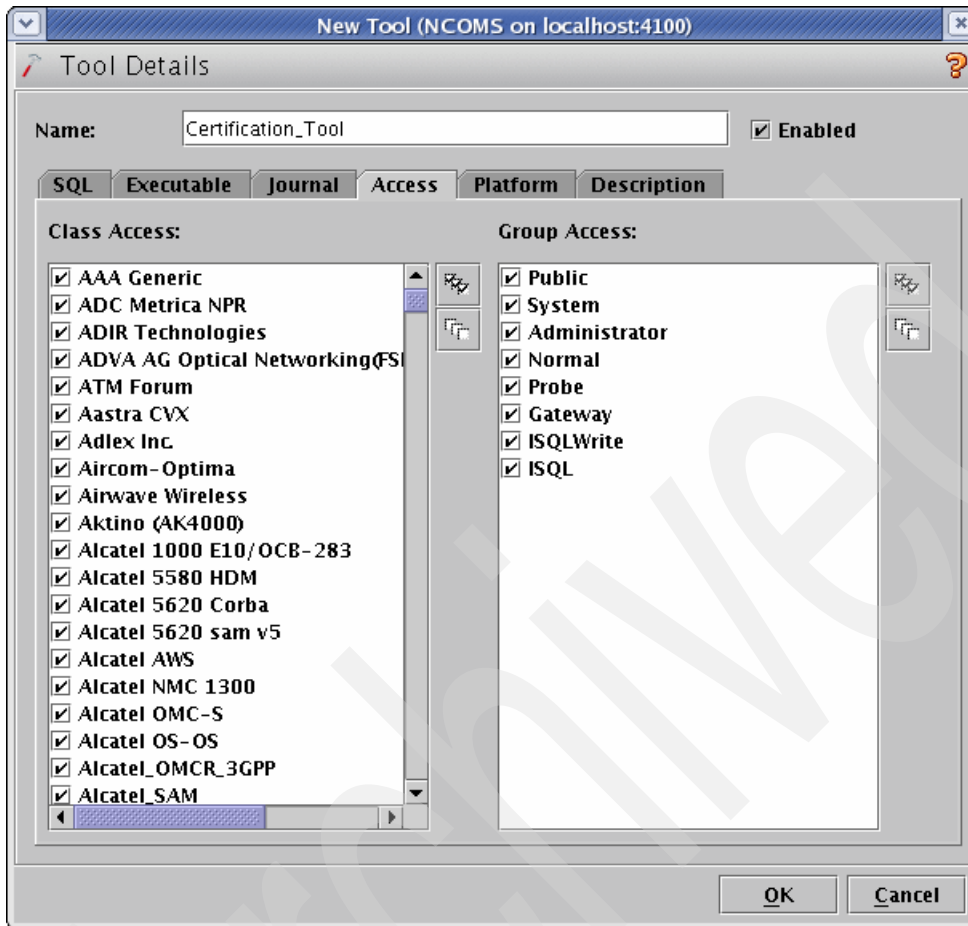

Figure 4-42 Tool creation window
4. The tools' access rights can be configured from the Access tab, as shown in Figure 4-42 on page 137.